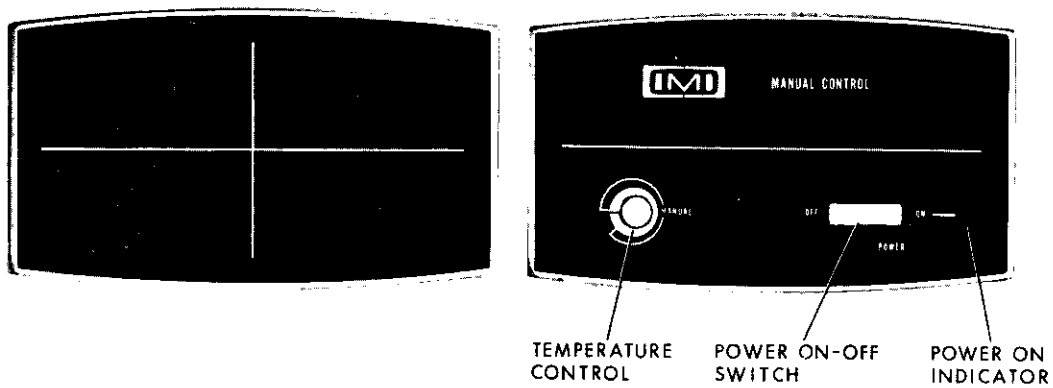

Figure 3. Manual Controller, Model 4002
- (2) Manual Controller, Model 4002 (figure 3)
The Manual Controller (figure 3) is used to control the temperature of the radiant heater, but does not sense the patient's temperature. Temperature adjustment is made manually by a control on the front panel.